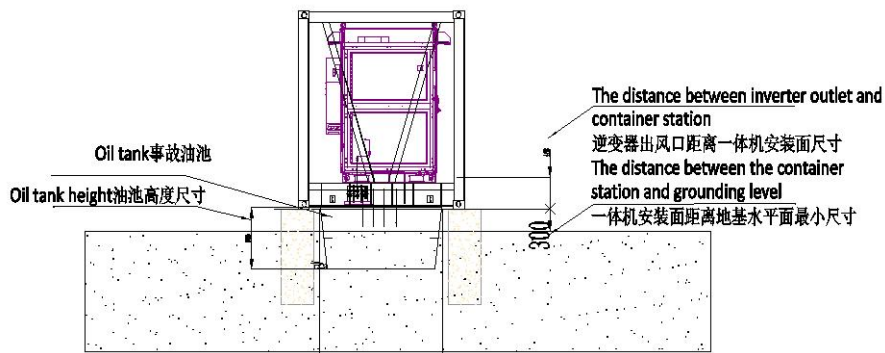

Figure 5-7 Installation location plan of the Inverter Transformer Station
- (1) Before fixing, the inlet and outlet positions of the AC and DC sides of the Inverter Transformer Station must be considered, and adjusted in time according to needs during installation;
- (2) As shown in Figure 5-7, after placing the Inverter Transformer Station in place, reliably connect the four corner post locks at the bottom of the Inverter Transformer Station to the iron plate on the concrete foundation by continuous seam welding. Spot welding is not allowed.
- (3) After the welding is completed, the weld needs to be effectively painted, or anti-rust treatment to prevent rust and avoid affecting the service life of